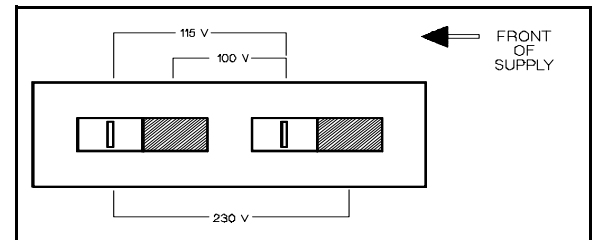

Figure A-1. Line Voltage Selector (set for 115 VAC)
- After making certain that the line cord is disconnected from a source of power, remove the top cover from the supply and set the two sections of the line voltage selector switch for the desired line voltage (see Figure A-1).